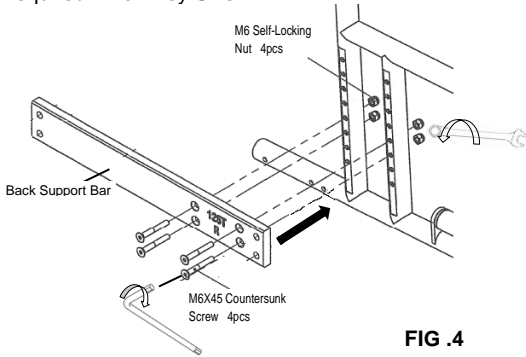

FIG .4
4. Fit the Back Support bar onto the frame of the wheelchair with fasteners provided (Accessories Pack 1). (See fig.4)